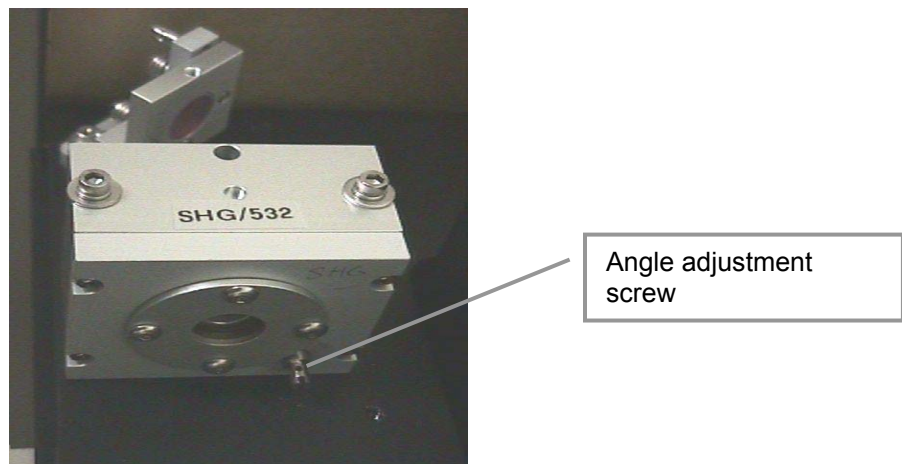

Figure 4-6: Second harmonic Angle Adjustment
- 6) Rotate the second harmonic generator crystal to optimize the phase matching angle and maximize the 532 nm energy. The crystal angle may be adjusted using a trim pot adjustment tool or small screwdriver, Figure 4-6.
- 3) Rotate the second harmonic generator crystal to optimize the phase matching angle and maximize the 532 nm energy. The crystal angle may be adjusted using a trim pot adjustment tool or small screwdriver, Figure 4-6.